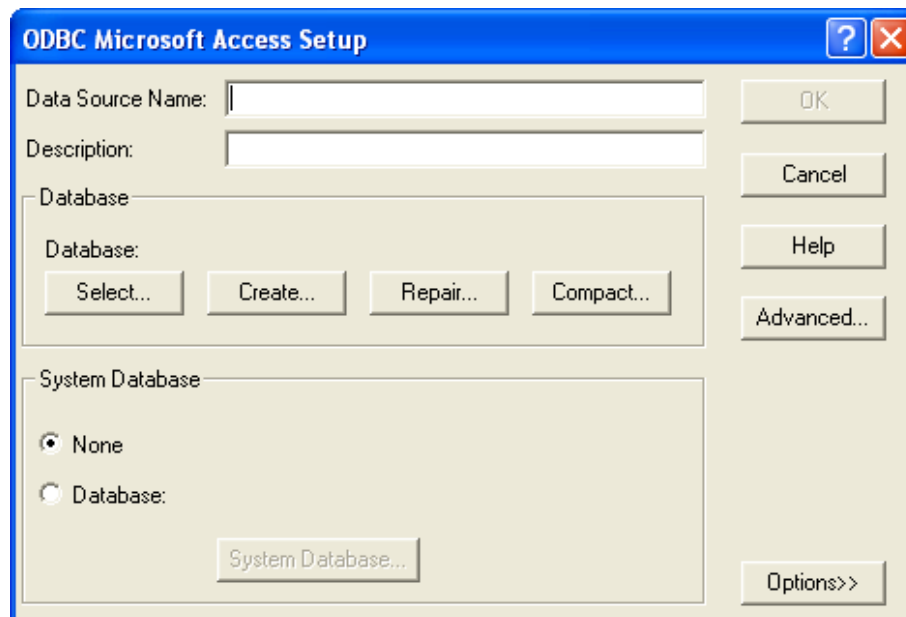

Figure 97 - ODBC Microsoft Access Setup Window
9. The **ODBC Microsoft Setup** window (Figure 97) appears.